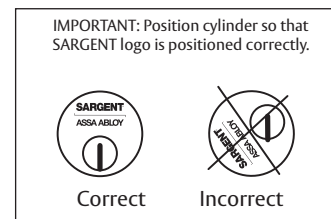

Fig. 9
- d. Verify that orientation of cylinder has SARGENT logo in position. (Figure 9)